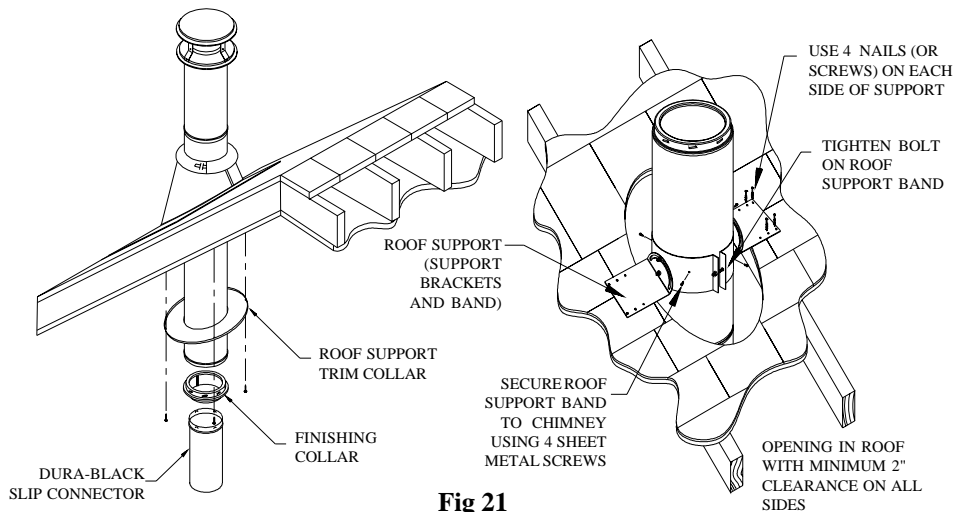

Fig 21
(2) A Roof Support is also used in installations where there is a cathedral ceiling, and a Square Ceiling Support is not desired. The Roof Support allows the DuraTech chimney to come down into the room below the level of the ceiling (Fig 21). The Roof Support can support a maximum of 45 feet of DuraTech Chimney total, and maximum of 20 feet below the support. If a taller stack of DuraTech Chimney is required, you must use a Square Ceiling Support Box instead.
2. Bolt on the Roof Support Brackets to the Roof Support Band using the supplied hardware. Attach the Roof Support Brackets to roof using (4) 8 penny nails or (4) #8, 1-1/2" screws per side (Fig 21).
3. Determine how much DuraTech Chimney will be extending into the room (minimum of 3" below the ceiling). Be sure to maintain the proper clearance to combustibles (walls and ceilings) for the connector pipe. Once you have identified the proper height for your installation, attach the of the Roof Support Band to the Chimney Section by tightening the Bolt, and secure it by using (4) supplied sheet metal screws.
5. Slide Trim Collar over the DuraTech Chimney and attach the Trim Collar to the ceiling using (4) 1-1/4" screws provided (Fig 21).
3. Determine how much DuraTech Chimney will be extending into the room (minimum of 3" below the framing), and attach the of the Roof Support Band to the Chimney Section by tightening the Bolt, and secure it by using (4) supplied sheet metal screws (Fig 21 & 22).